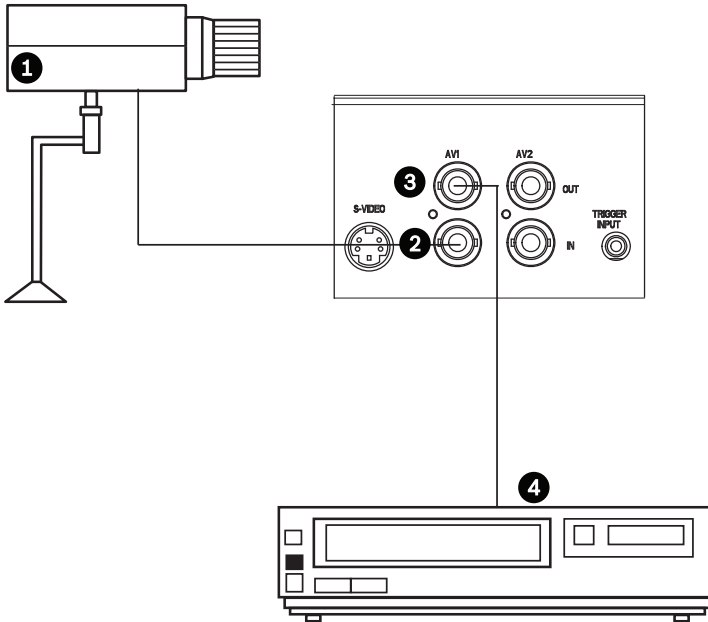
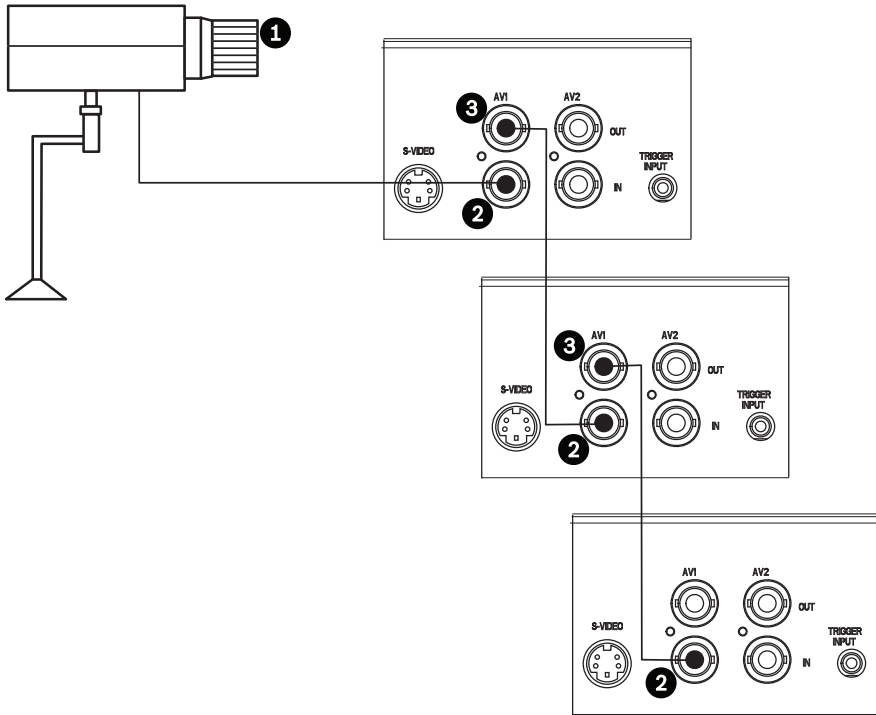

Figure 5.10 Single Monitor Configuration
Figure 5.11 Multiple Monitor Configuration
Note: All video inputs are passive loop-through. The impedance is automatically set to 75 Ohm by the input of the signal on the input connector, while operating in a single connection mode (see *Figure 5.10*). If a cable is also connected to the output connector, the video signal can be passed on to another monitor connected to it via the passive loop-through function. Up to three (3) monitors may be connected in this manner (see *Figure 5.11*).